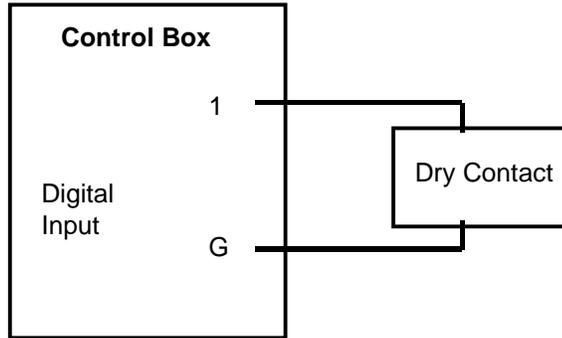

Figure 4-4: Digital Input dry-contact switch, or sensor, is connected to a Controller USB input
- 1) A *dry-contact* switch or sensor can be connected directly to a Controller USB input terminal and to a Controller USB inputs ground. Closing the switch or sensor contacts turns the output ON. The interconnection scheme is shown in Figure 4-4.